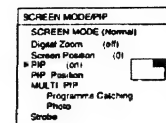

Fig. 37.
- 2 Select "Screen Mode/PIP" with or and press OK. The SCREEN MODE/PIP menu appears (see Fig. 37).